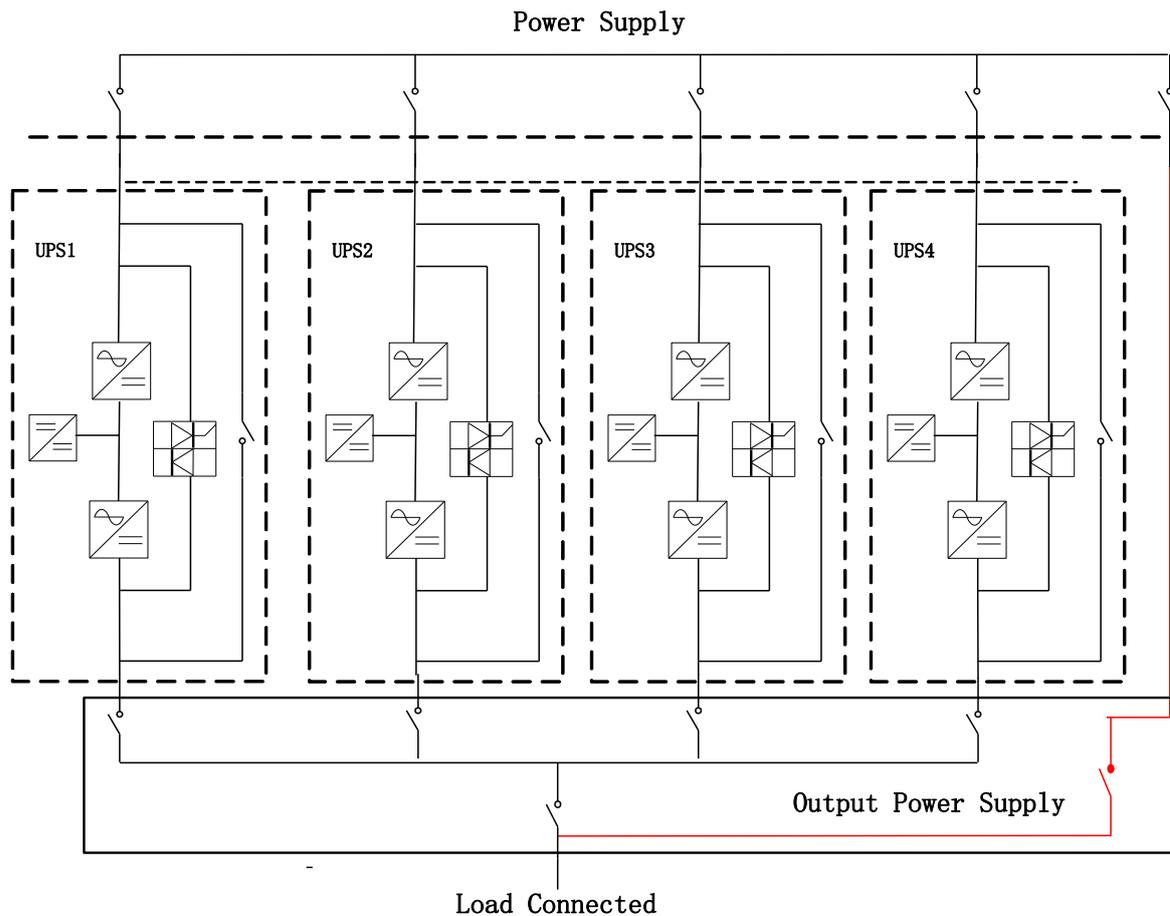
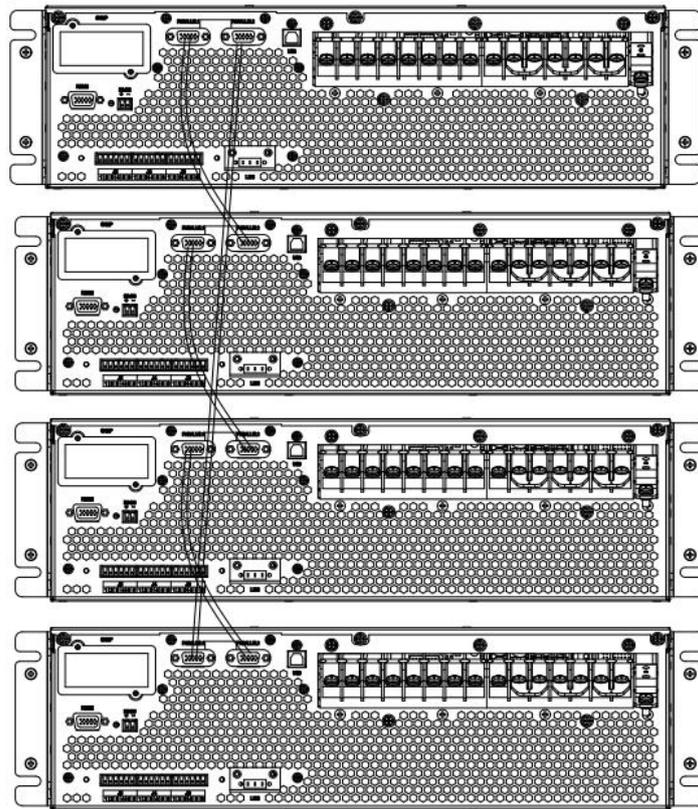

Fig. 4-6 Parallel diagram
Fig.4-8 Parallel connection
2. Press the red button for the battery cold start(See Fig.4-6).The system is then powered by the battery.
Fig.4-6 the position of the battery cold start button
All the parallel cables are designed to be shielded and double insulated, and are connected between the UPS to form a loop as shown below in Fig.4-8.
For field installation, please connect the cables according to Fig.4-6 and Fig.4-8.